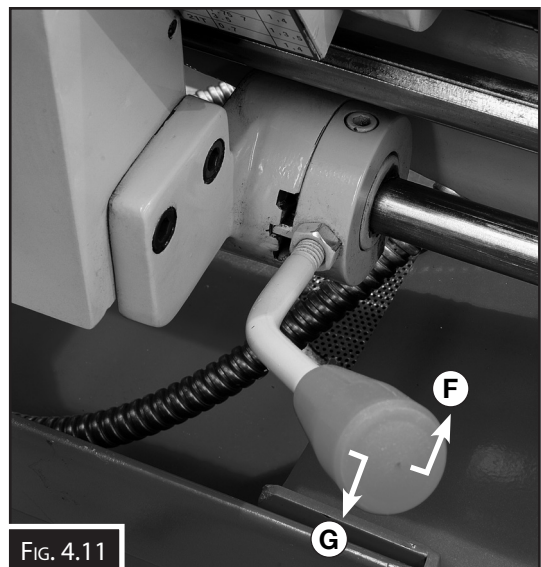

FIG. 4.11
6. Move the Spindle Start lever up (F in Fig 4.11). Spindle should rotate clockwise (as viewed from top) and machine should run smoothly with little to no vibration or rubbing noises.
7. Move the Spindle Start lever down to the middle position (F in Fig. 4.11) and wait for the spindle to come to a complete stop.
8. Move the Spindle Start lever down (G in Fig. 4.11) Spindle should rotate counterclockwise (as viewed from top).
10. Without resetting EMERGENCY STOP button, Move the Spindle Start lever up to start the spindle (F in Fig. 4.11) Machine should not start.